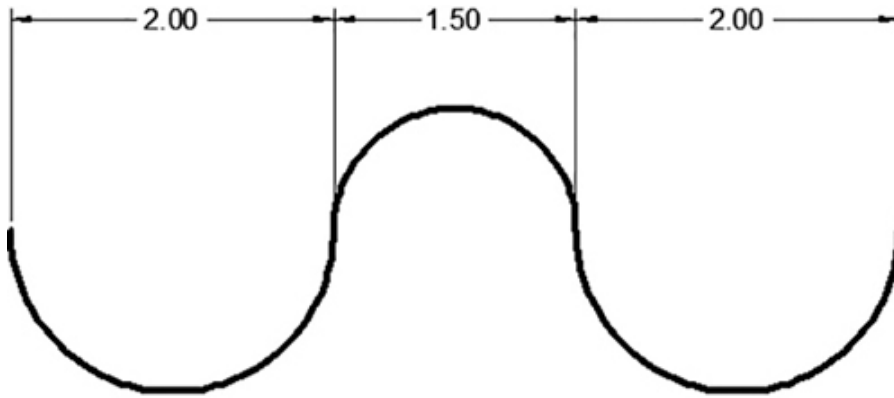

Figure 9-9
- 2 Create the drawing shown in Figure 9-9 using the **PLINE** command and the default tangent **Arc** option.